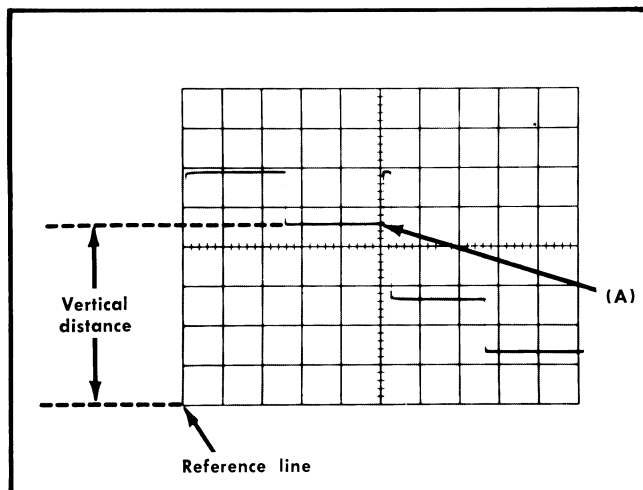

Fig. 1-2. Measuring instantaneous dc voltage with respect to a reference voltage.
4. Measure the distance in divisions between the reference line and the point on the waveform at which the dc level is to be measured. For example, in Fig. 1-2, the measurement is made between the reference line and point A.